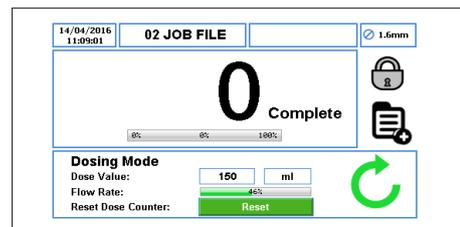

Figure 16 Home Screen - Reset Number of doses
- ▶ When the pump is running in dose mode, pressing twice the STOP button, the number of completed doses will be reset as per Figure 16.